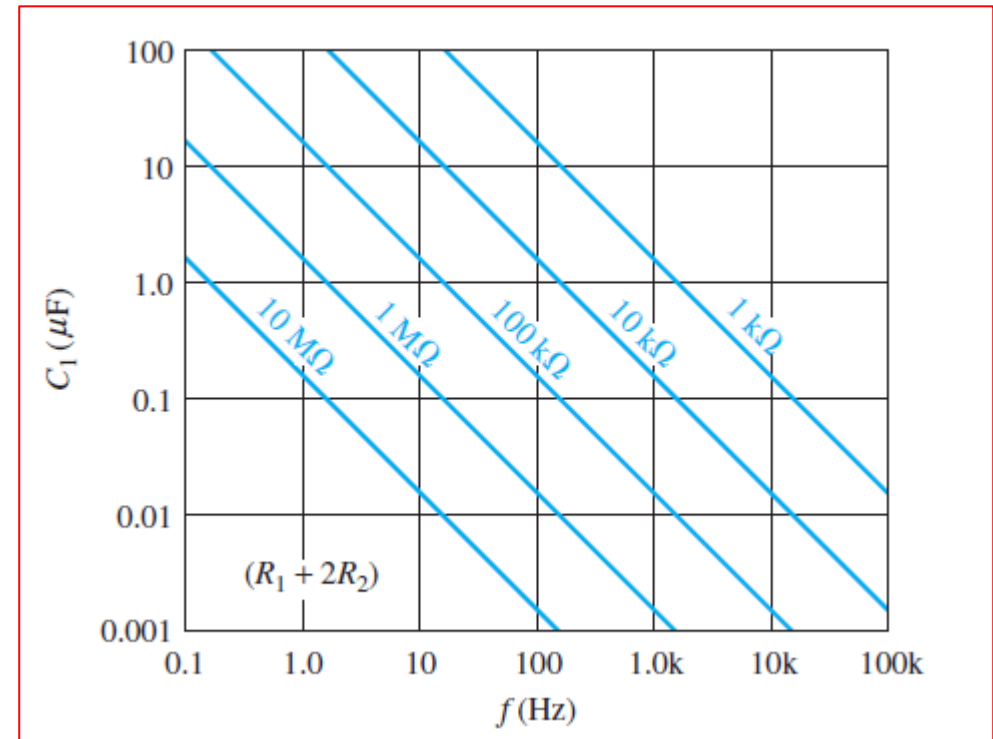

FIGURE 58 Frequency of oscillation as a function of C_1 and $R_1 + 2R_2$. The sloped lines are values of $R_1 + 2R_2$.
- The result is a rectangular wave output whose duty cycle depends on the values of R_1 and R_2 . The frequency of oscillation is given by the following formula, or it can be found using the graph in Figure 58.